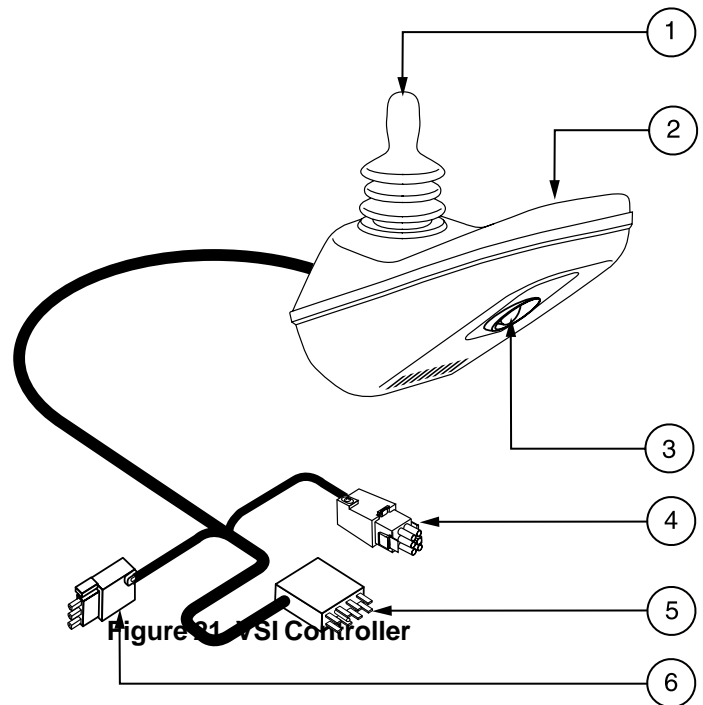

Figure 21. VSI Controller Keypad
3. Plug the off-board charger into the off-board charger/programming socket on the controller. See figures 21, 22a, 23, and 25.
The *electronic controller* is what you use to operate your power chair. The electronic controller enables you to move the power chair, as well as monitor battery charge, electronic controller functions, and the condition of your electrical system. The VSI electronic controller is an *integral electronic controller*. All of the electronics necessary to operate the power chair are contained in one module. See figure 21. Typically, the VSI is mounted to one of the armrests and is connected to the motors, batteries, and the onboard charger at the power base. The VSI may be used to control some *optional systems* such as power elevating seats and lights.